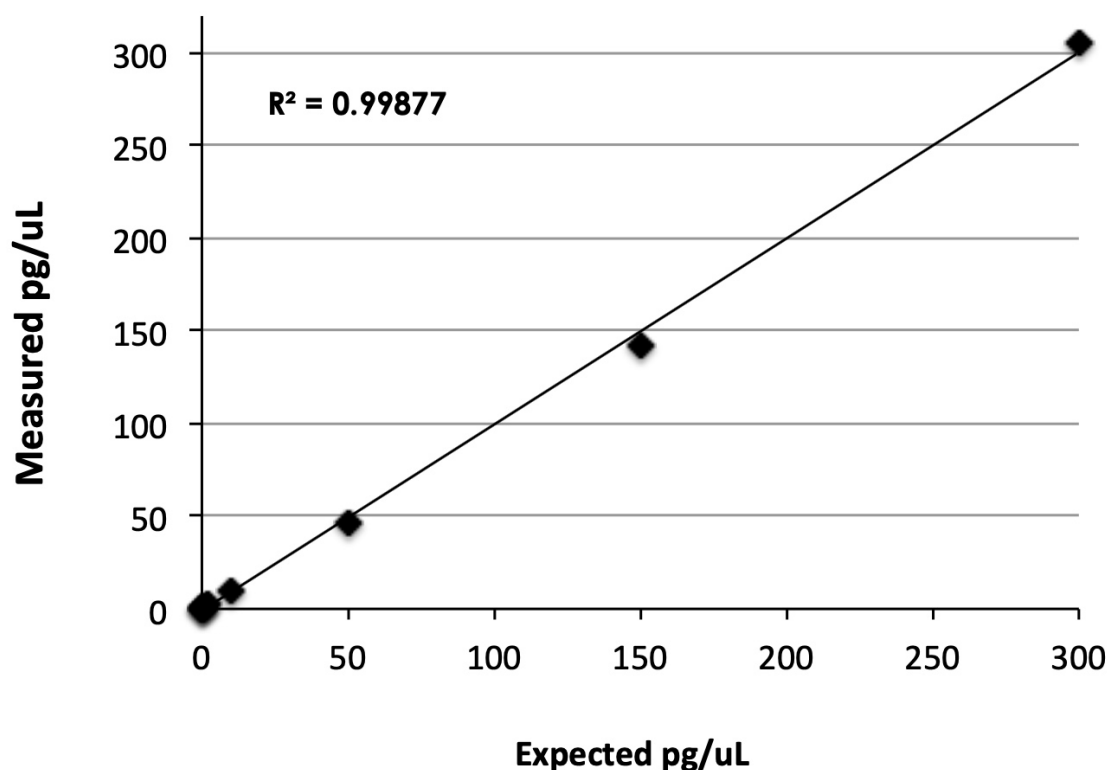

Figure 2: Standard range using 10 μ L of sample in 200 μ L of dye reagent.
3. Plot the fluorescence RFU values for the DNA standards on the y-axis and pg/well DNA on the x-axis, and fit a trend line (Figure 2) through these points to generate a standard curve with a y-intercept = 0.